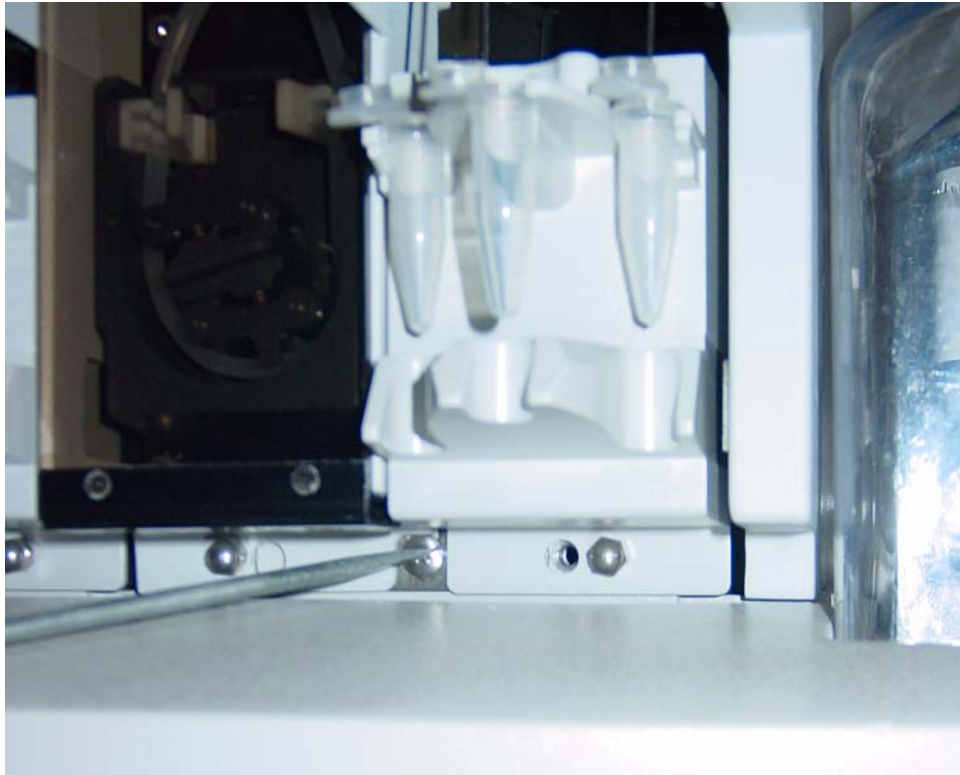

Figure A.4
base of the module, between the vial holder and pump door. See Figure A.4 and Figure A.5.
3. Align the screw at the bottom of the module into the threaded hole on the base. Using a slotted screwdriver, slowly rescrew the module retaining screw until the module is flush with the other modules. See Figure A.4 and Figure A.5.